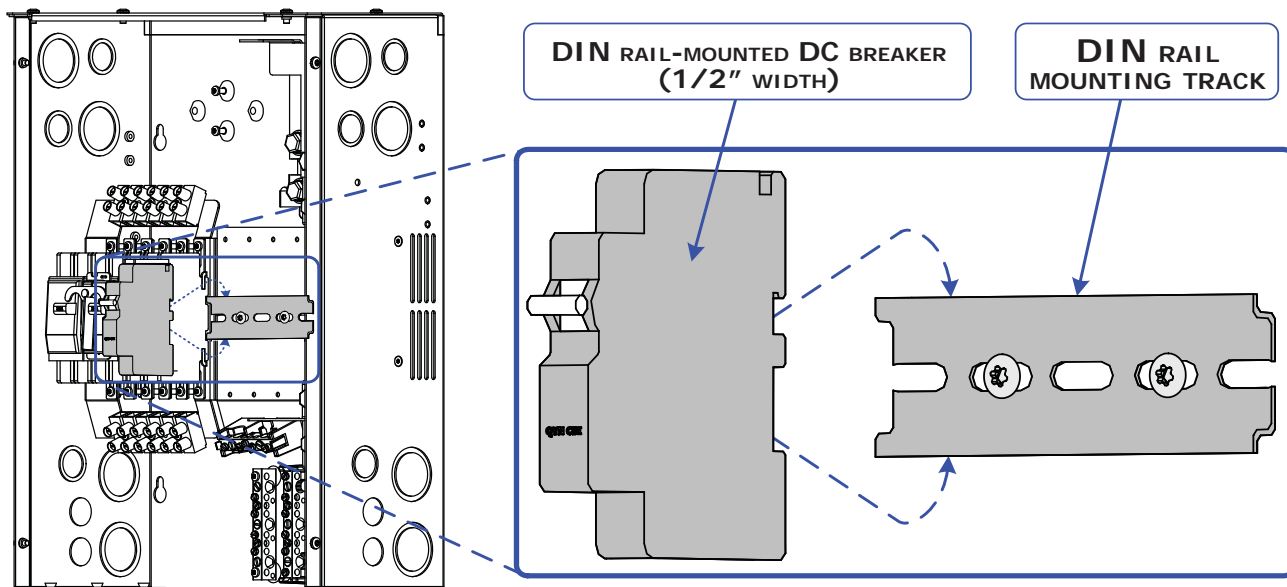

Figure A5-1, Installing DIN Rail-Mounted DC Breakers
2. **For DIN rail-mounted breakers** (refer to Figure A5-1):